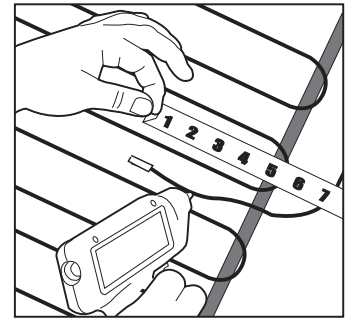

Figure 7. Placement of the floor temperature sensor
6. For installations including a thermostat, the low-voltage floor sensor should be placed in between the loops created by the cable and held in place with a small amount of thinset or hot glue. See Figure 7.